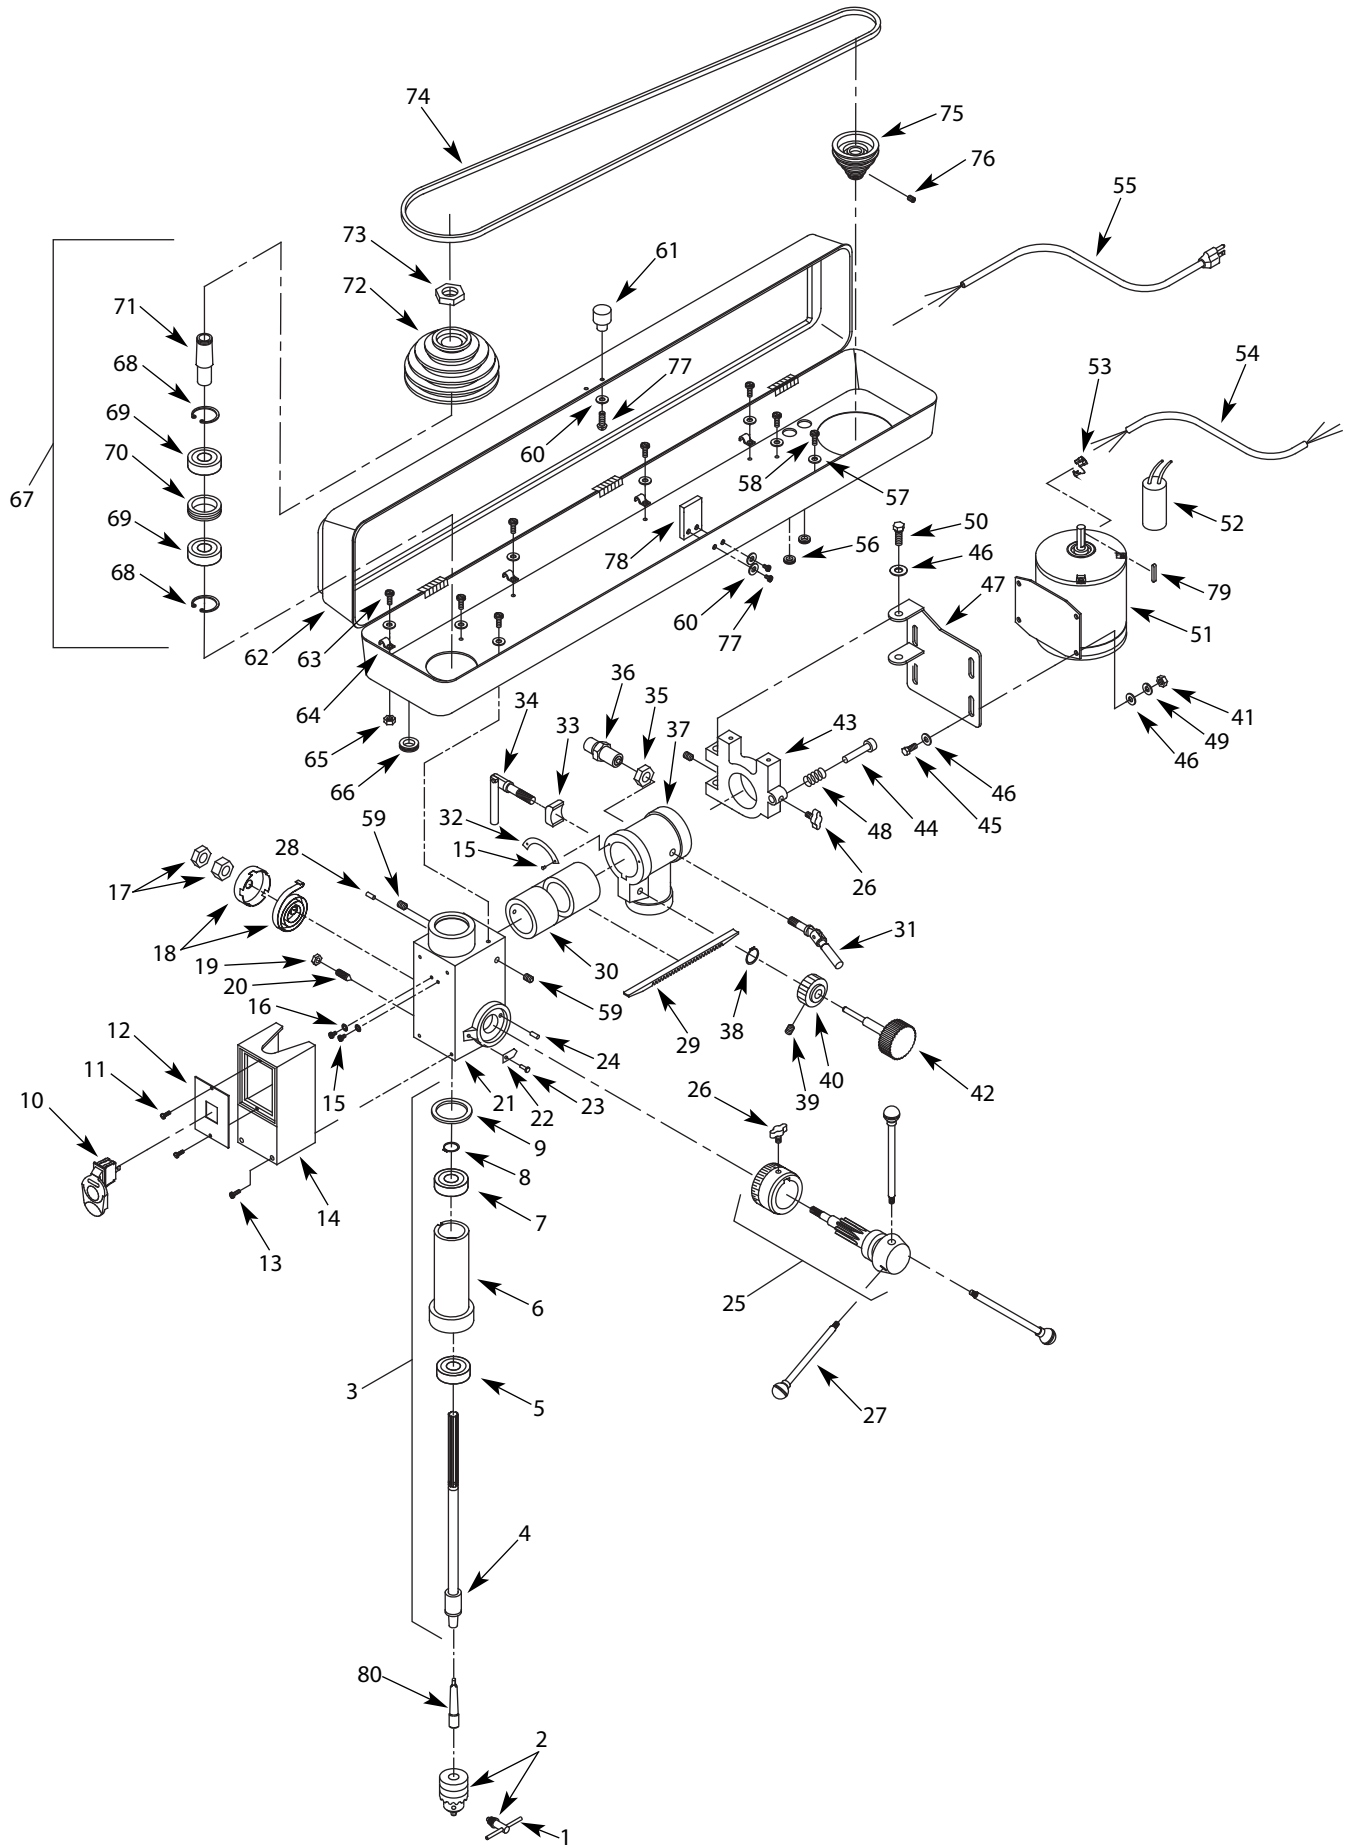

Figure 22 - Replacement Parts Illustration for Head
- Lower spindle assembly (Figure 22, Ref. No. 3) all the way down.
- Apply lubricant around the inside of the hole in the spindle pulley (Figure 22, Ref. No. 72).
- Apply lubricant to rack (teeth) on quill (Figure 22, Ref. No. 6) while extended below drill press head.